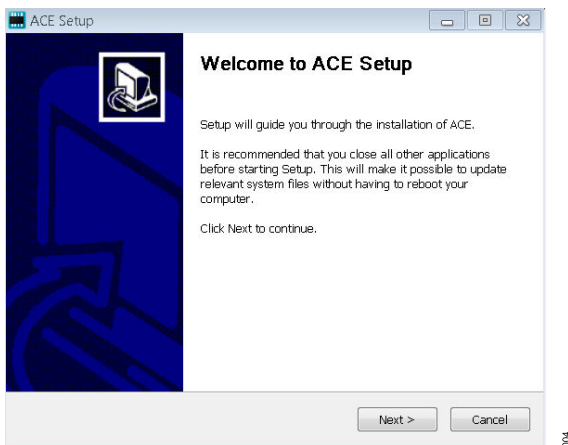

Figure 4. Evaluation Software Install Confirmation
4. Click **Next >** to continue the installation, as shown in Figure 4.